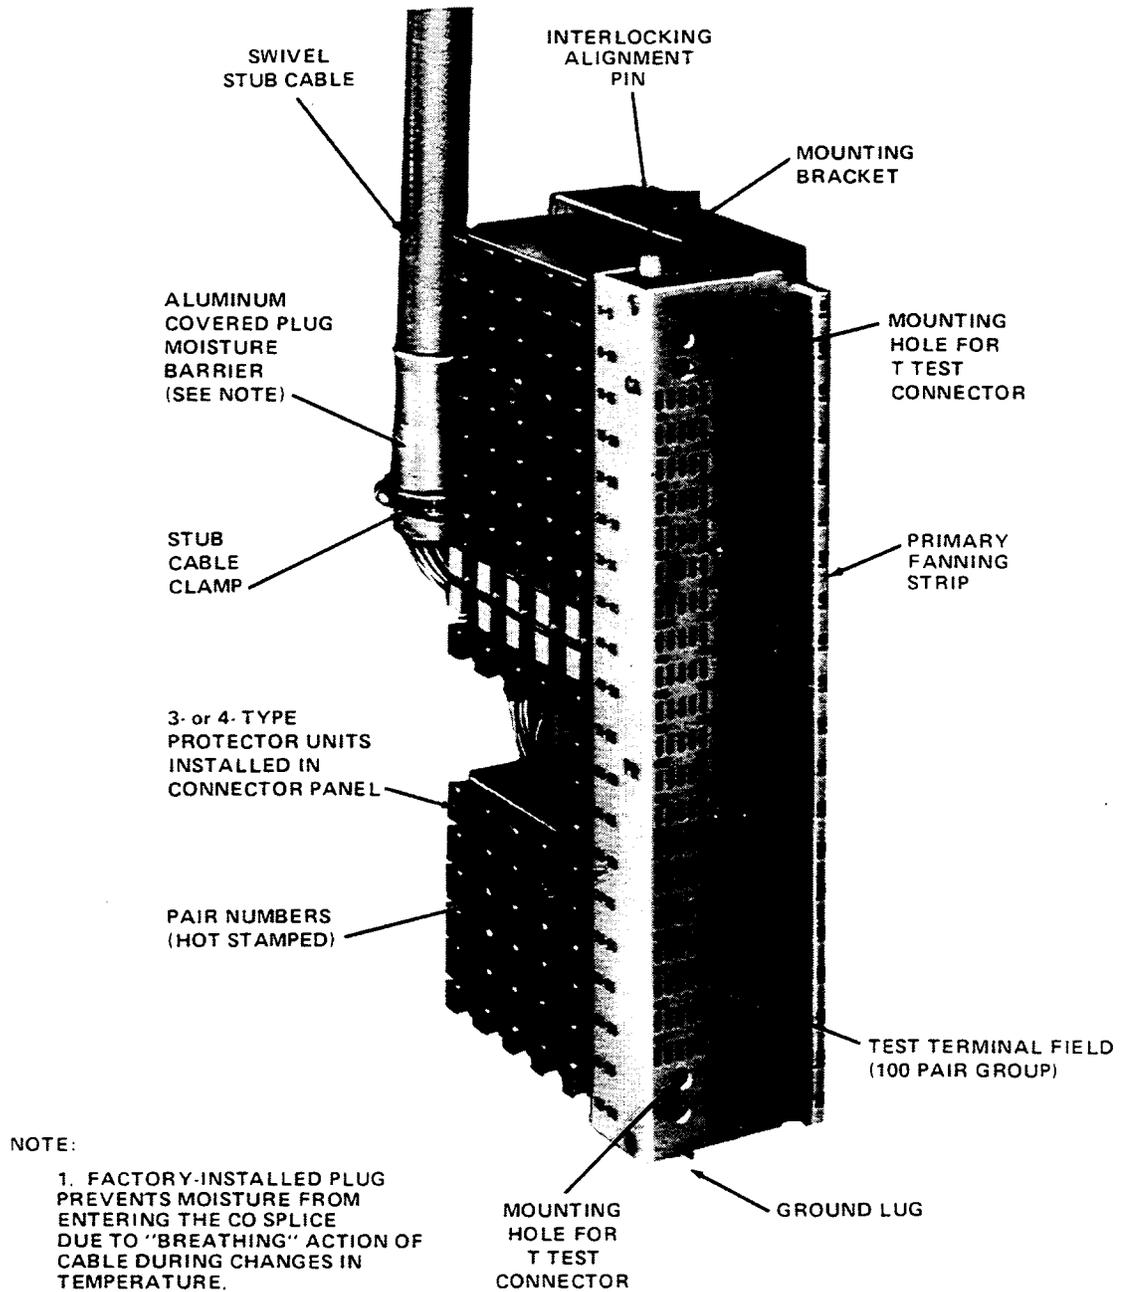

Figure 1. 311-Type Connector — Left Side View
2.01 The 311/311L-type connector (Figures 1, 2, 3, 4, Table A and Table C), etc., measures 11 inches (27.94 cm) high by 3-1/4 inches (8.25 cm) wide (with 4-type protector units installed) and extends 6-1/2 inches (16.51 cm) from the vertical frame mounting bar at a 12.5-degree angle. This angled mounting configuration provides "semi" front access to the plug-in protector field while maintaining the total front access to both the test and cross-connect fields. This facilitates testing, jumper terminating, and protector unit administration. The 311/311L series of connectors are offered for convenience and ease of installation. All 311-type connectors have the same basic features. The exposed wires in the UL Listed connectors are enclosed in a metal casing.